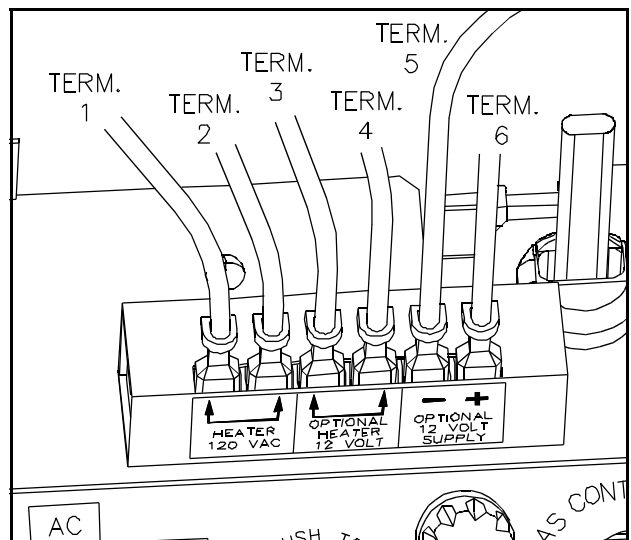

Figure 3 - Identification Terminal Block Connections
1. Check for 110 volts to the heater at AC Terminals 1 and 2 (See Figure 3 for location).
6. If the Continuity Test indicated in TABLE 2 measures an open, remove the heater leads at Terminals 1 & 2 and install a jumper across terminals 1 & 2 (See Figure 3 for location). Repeat the Continuity Check.
1. Check for 110 volts to the heater at Terminals 1 and 2 (See Figure 3 for location). The voltage range limitation is 108 - 132 Volts AC. Note: Do not disconnect the heater when this measurement is taken. If voltage reading is acceptable, go to Step 2.